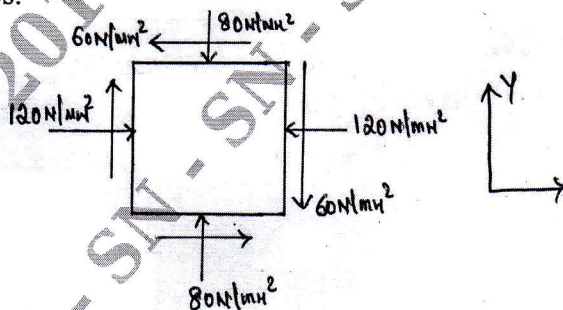

Fig. Q3 (b)
- b. The state of stress in a two dimensionally stressed body is shown in Fig. Q3 (b). Determine graphically (by drawing Mohr's circle), the principal stresses, Principal planes, Maximum shear stress and its planes. (10 Marks)